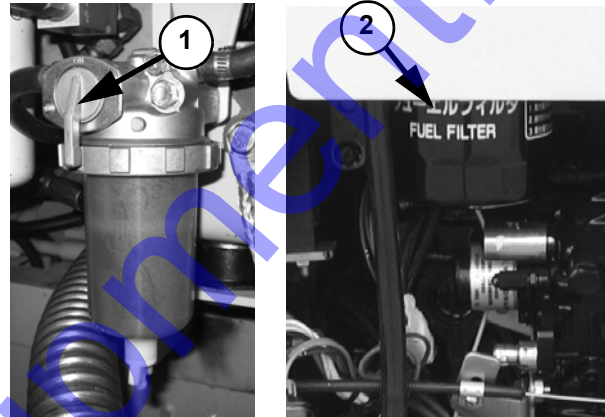

Fig. 41 - Fuel Shut-Off and Fuel Filter
- Close the fuel shut-off valve (1, Fig. 41) on the oil/water separator